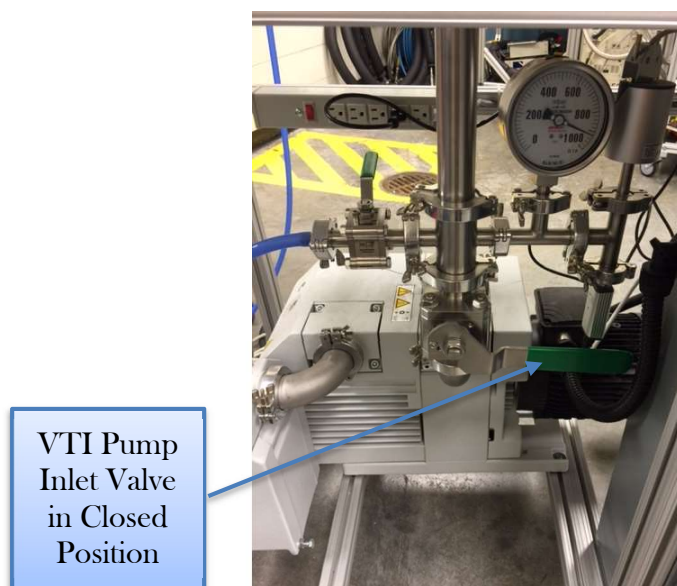

Figure 5
- 1.6 Close the VTI pump inlet valve (Figure 5).